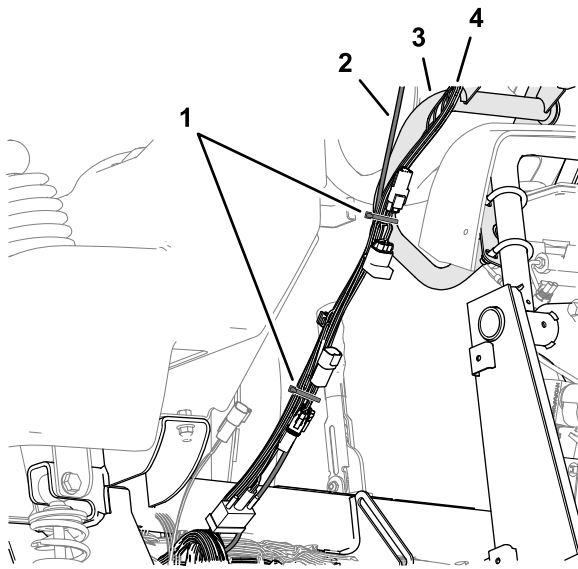

Figure 185
3. Secure the modem-data harness and the navigation-data and electrical harness to the monitor tube with a cable tie (Figure 185).
4. Secure the modem-data harness to the navigation-data and electrical harness with a cable tie as shown in Figure 185.